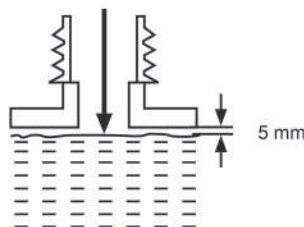

Fig. 26
8. Fill correctly mixed fuel / oil into the tank using a fuel funnel fitted with a filter to avoid debris entering the tank. Do not overfill. Leave a minimum 5 mm of space between the top of the fuel and the inside edge of the tank to allow for expansion (Fig. 26).